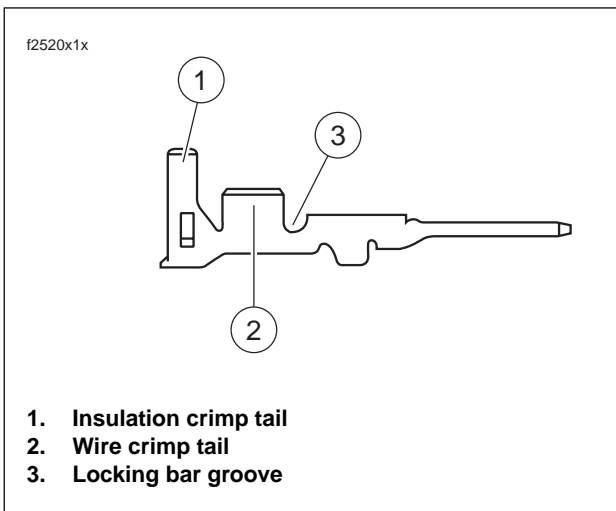
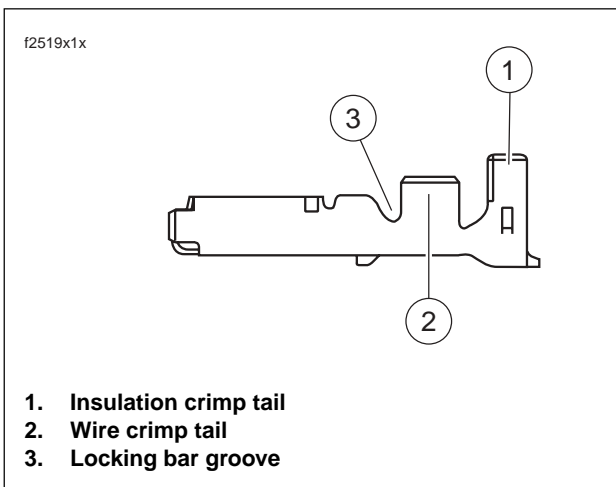

Figure B-4. Pin Terminal
Figure B-5. Socket Terminal
2. See Figure B-4. and Figure B-5. Select the pin/socket terminals from the parts catalog and identify the wire crimp tails (1) and the insulation crimp tails (2) and the groove for the crimp tool locking bar (3).
See Figure B-4. and Figure B-5. Hold the terminal with the installation crimp tail (1) facing up. The tool will hold the terminal by the locking bar groove (3) and crimp the wire crimp tail (2) around the bare wire of the stripped lead and the insulation crimp tail around the insulation.